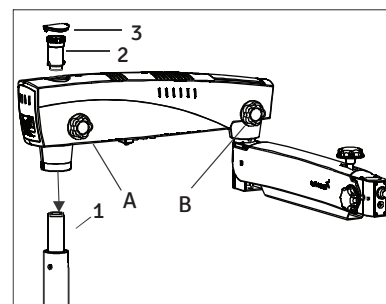

Fig.43
3 Remove the arm assembly from the box and follow the instructions below (see Fig.43).
⚠ Do not unscrew knob A completely (see fig.43). loosen only a few threads; otherwise the lock ring inside the column guide may disconnect and installation may not possible.
B. Place the arm assembly on the column shaft (1) shown in Fig.43.
C. Screw in the threaded plug from the top (2).
D. Put the protective cap (3) in place, and loosen the suspension arm locking knob (B) so that it can be rotated.
- Take out Foot Switch from locking connect to the Switch arm Refer C in fig 43 .